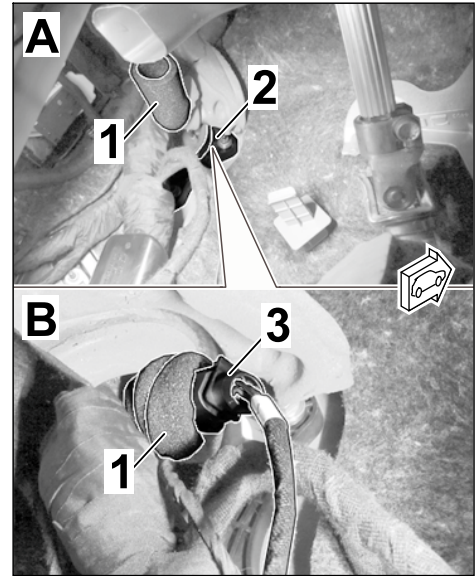

Figure 14
- 3.1.1 Expose the connection point (preparation = socket connector, 6-pin) in the passenger compartment of the vehicle, area of bulkhead grommet, A-pillar left (⇒ *Figure 14-A* -).
- 3.1.3 Establish a connection between the plug connection preparation and the wire harness for the exhaust flaps (6-pin) ⇒ *Figure 14-B* -).